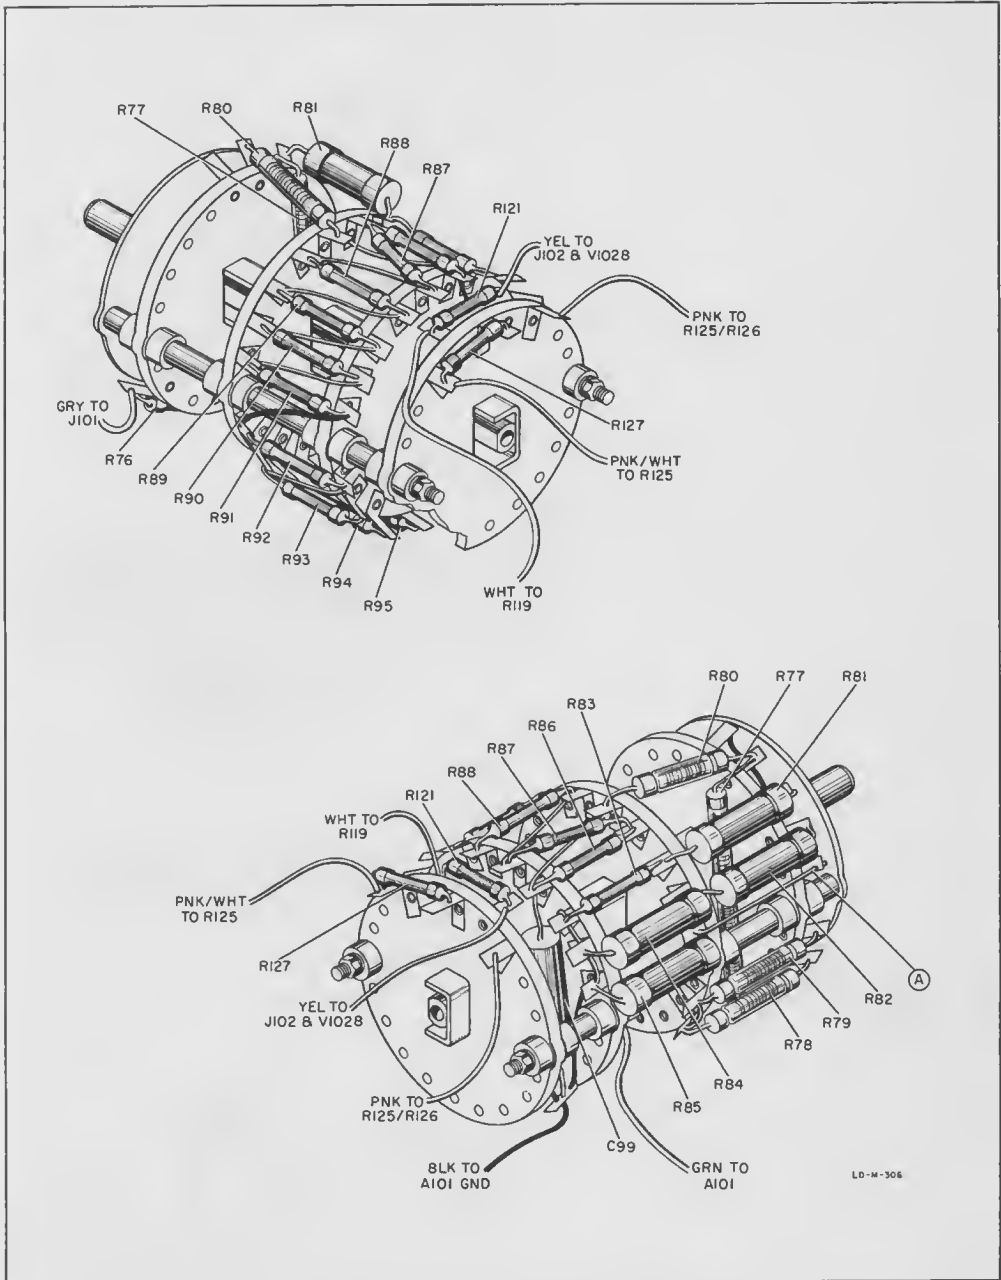

Figure 5-5. S101 Range (Volts) Switch Detail
- f. Connect one lead of an 8.2-megohm resistor to oscilloscope signal connector (or probe). Using a jumper wire, connect the other resistor lead to the junction of R85 and S101D (point A in figure 5-5). Connect oscilloscope common lead to 413A common connector.
5-26. Figure 5-5 shows the location of all parts and wire destinations for the replacement of the RANGE (VOLTS) switch. The Model 413A should be checked for correct calibration after replacing this switch.